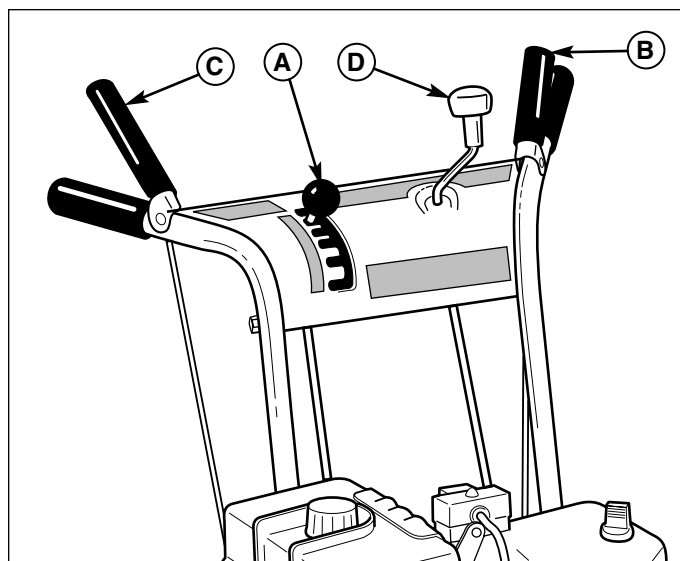

Figure 2. Operator's Control Position
A. Speed Selector - This lever (A, Figures 2 & 3) is used to set the ground speed of the snowthrower.
B. Traction & Free Hand™ Control - This control engages the traction drive as the lever (B, Figures 2 & 3) is depressed, and disengages the traction drive when the lever is released. When both levers are depressed the Free Hand™ control is activated. This allows the auger control to be released yet the auger remains engaged until the traction Free Hand™ is released. **NOTE:** Changing ground speeds must only be done while the drive control is in the disengaged (fully released) position.
C. Auger Control - The auger control clutch lever (C Figures 2 & 3), engages the auger drive when the lever is depressed and disengages the auger drive when the lever is released (unless Traction Free Hand™ control is also depressed-see above).
D. Chute Direction Control - The chute direction control (D, Figures 2 & 3), allows the discharge chute to be rotated to throw snow in the desired direction. Snow may be thrown at any angle from straight left, to straight forward, to straight right.
7. Check the drive control (B, Figure 2), and Auger Control (C) for proper operation. The auger and impeller must stop within 5 seconds of releasing the Auger Control (C). If adjustment is required, see the Service Section for procedures.
8. Check the chute direction control (D, Figure 2) for proper operation. The discharge chute should rotate freely in both directions. See the Service Section for adjustment procedures and troubleshooting.
11. Check the speed selector (A, Figure 2) for smooth operation. The control must move freely into each speed position gate and remain in position when released. If the speed selector does not move freely into all forward and reverse speed positions, contact your local authorized dealer for assistance.